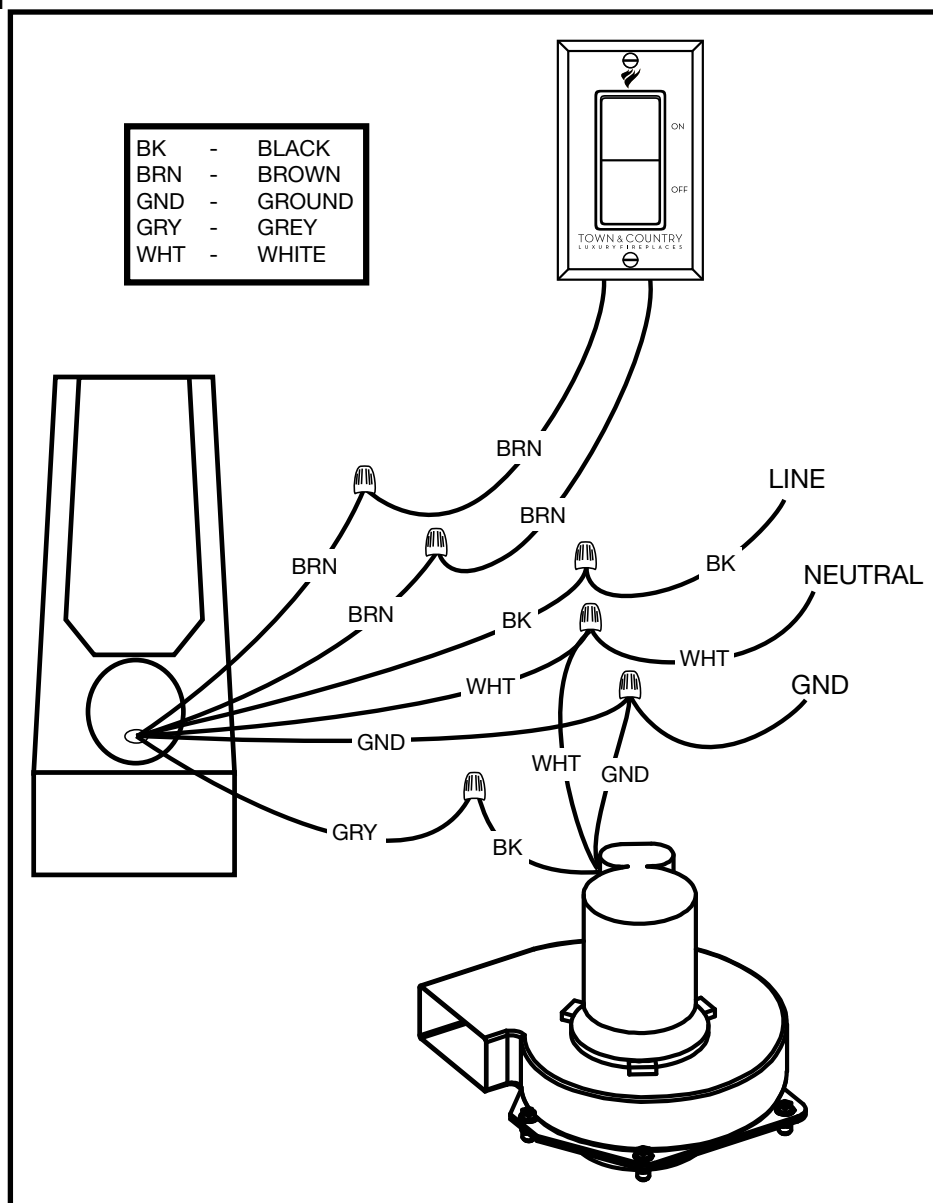

Figure 42: Wiring instructions.
- Connect the ground wire to the green wire inside the compartment (Figure 42).